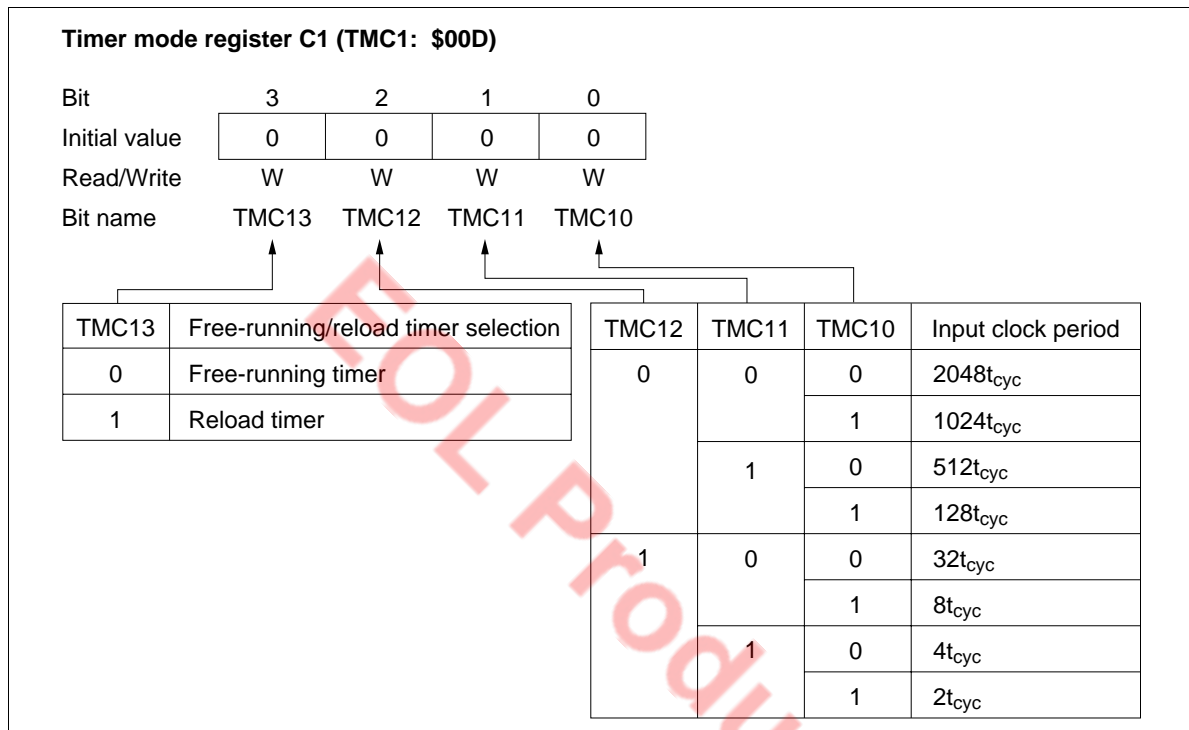

Figure 52 Timer Mode Register C1 (TMC1)
- Timer mode register C1 (TMC1: \$00D): Four-bit write-only register that selects the free-running/reload timer function, input clock source, and the prescaler division ratio as shown in figure 52. It is reset to \$0 by MCU reset.